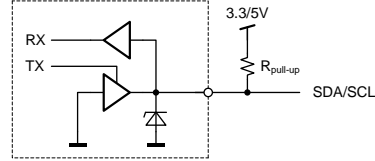

Figure 32. Physical layer of communication interface
*Figure 32* shows the achievable power loss savings when using the hot-standby mode operation. A total power loss reduction of 45% is achievable.